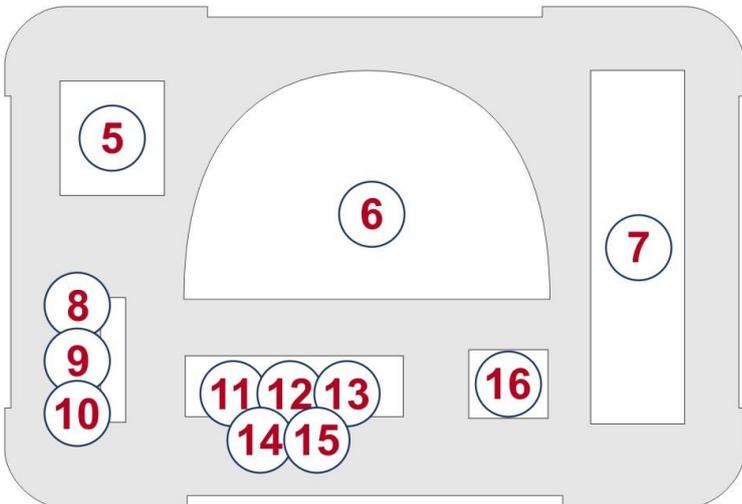

Fig.1
The adapter (Fig.1, item 7) is used for connect the main unit to the tested power mains. LED indicator in the plug, indicates the presence of voltage in the tested cable.
Standard patch cord (Fig.1, item 20), is used for connect the main unit to RJ45 PC socket.
The patch cord (Fig.1, item 21) is used when testing the telephone cable that are equipped with RJ11 sockets.
1.3.5. PATCH CORD RJ45/TV(M) FOR CONNECTING TO THE TV SOCKET TV(F)
The patch cord (Fig.1, item 19) is used when testing television receivers, cable and terrestrial television cables.
The patch cord with a needle (Fig.1, item 22) is used when testing multi-wire shielded cables, the screen of which is not connected to the connector. It connects to the "SHIELD" connector of the main unit. On the wire there is a pin plug and a needle probe. The needle pierces the outer insulation of the cable under test and provides contact with the screen.
The adapter (Fig.1, item 16) is used to connect low-current cables with no connectors. When connecting such cables (twisted pair type), it is recommended to take into account the color scheme of wires of a cable \(item 10.3\).
Files with sounds are recorded on a USB drive (fig.1, 7). The user can use their own sound files that are optimally suited to the situation in which the search event is held (noise in the office, people talking, music, etc.).
This socket (Fig.1, item 15) is used for short circuit of all wires of the cable equipped with the RJ45 connector at its test by NLJD.
Mini-USB patch cord (Fig.1, item 4) is used to connect the main unit to the USB port of a PC.
The accumulator charge level is shown in the Information line \(Fig.22, item 3\) on the screen. The accumulator is charged using the charger (Fig.1, item 2).